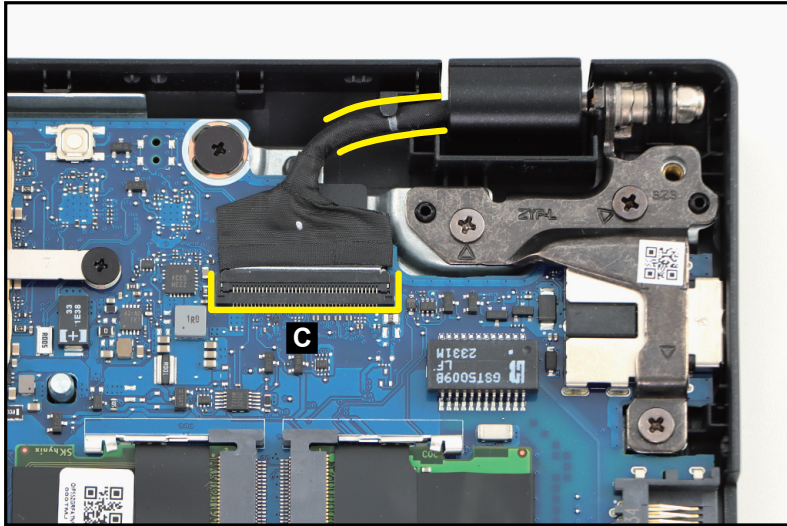

Figure 1-26. LCD Module Removal
3. Disconnect the eDP cable from the mainboard connector (C). Then unroute the cable from the cable guides as shown in Figure 1-26.